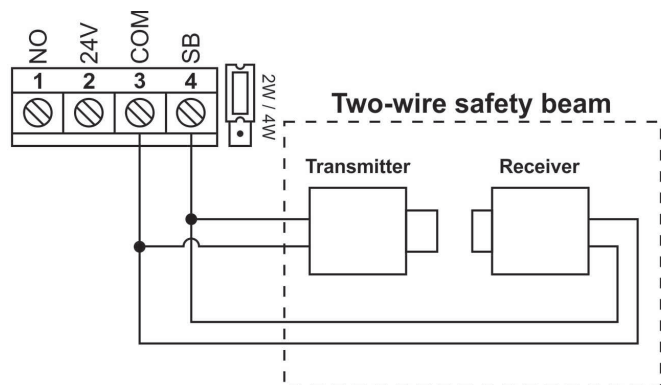

Figure 19A
- RDO two-wire safety beam (Figure 19A)
- Follow Safety Beam instructions and connect to the Output Terminals. Use the normally-open contacts of the beam to connect to input SB4 on the RDO (Figure 19A/B)